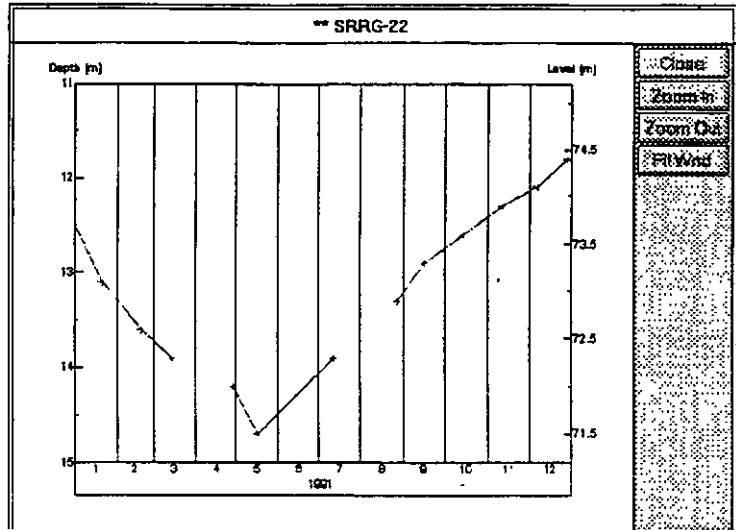

Figure 10-23
16. Select **Display**. The display should look as shown in Figure 10-23. If the display shows only a coordinate system, or a frame of a graph but without points and